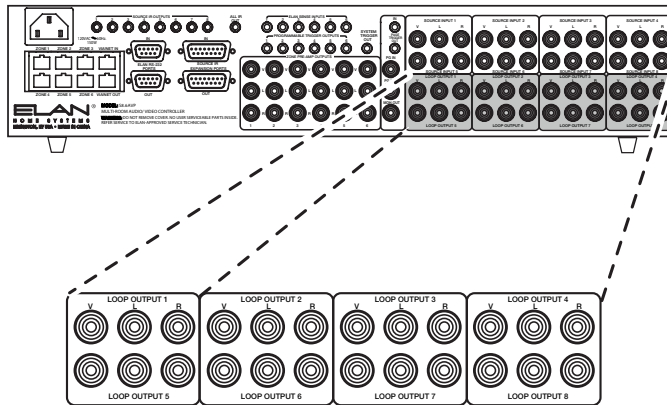

Figure 1-14. Source Audio/Video Loop Outputs
PG IN and PG OUT connections allow system-wide paging when utilized with ELAN's COM2 Communications Controller (6). PG IN connects from the COM2 Communications Controller. PG OUT connects to additional S8.6 Multi-Room Integrated Controllers in a multi-unit configuration (see **Figure 1-14**).
Loop Output 1 through Loop Output 8 (7) provide a buffered output (straight pass-through) of the corresponding Source Inputs (see **Figure 1-14**).